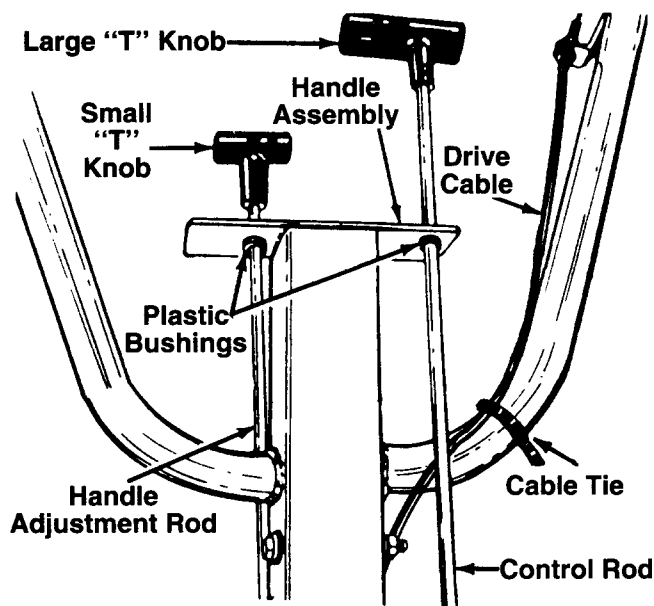

FIGURE 8.
1. Insert the threaded end of control rod **up** through the plastic bushing on the left side of handle assembly. See figure 8. Thread the large "T" knob on the end of control rod.